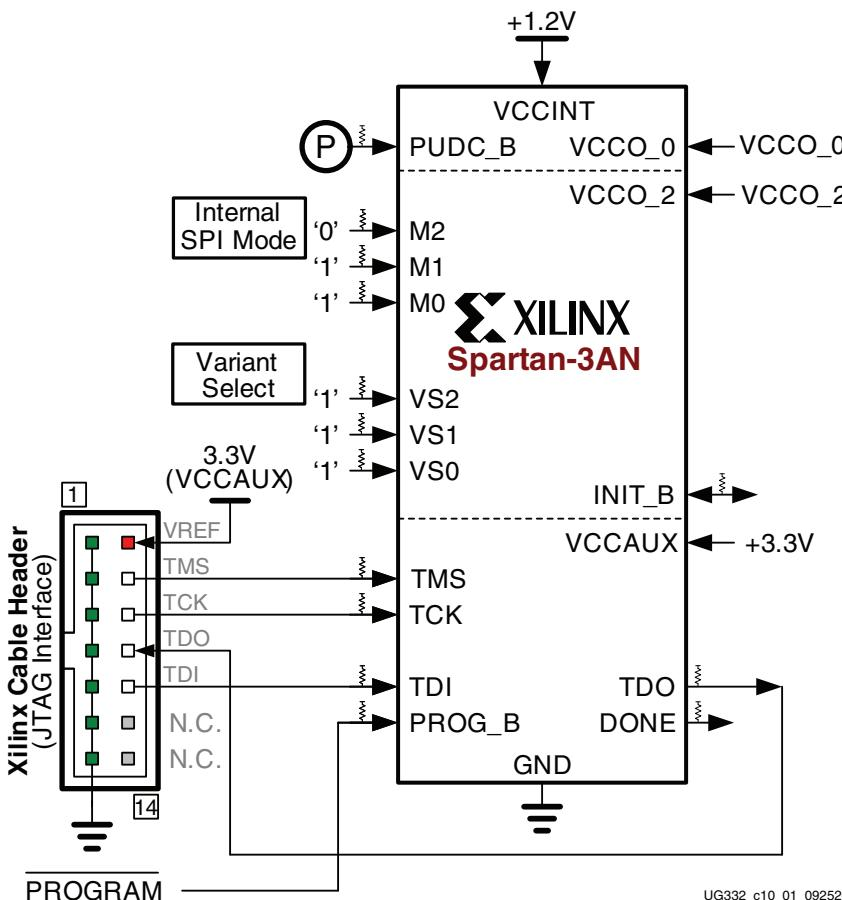

Figure 10-1: Spartan-3AN FPGA using Internal Master SPI Flash Mode
Figure 10-1 shows the logic levels and signals involved during configuration.
**Note:** Pins used in the external SPI mode that are not shown in Figure 10-1 are not used in internal SPI mode.